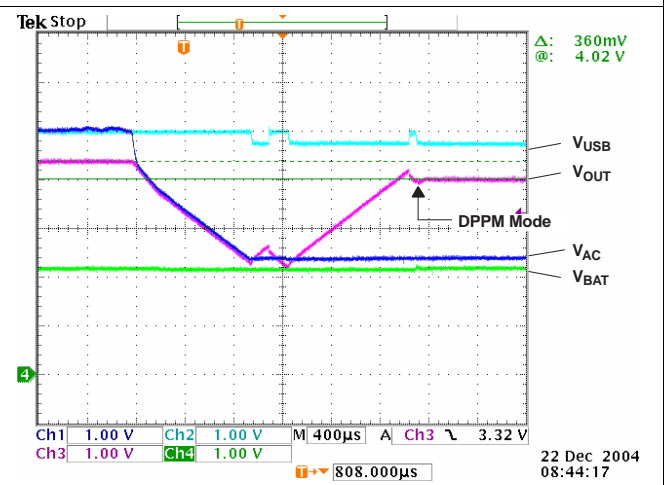

Figure 11. Remove AC (Low Battery) – PWR XFER to USB
**Figure 11** illustrates when AC (low battery) is removed, power transfers to USB; PSEL = H; channel 1 (CH1)  $V_{AC} = 5.4$  V; channel 2 (CH2)  $V_{(USB)} = 5$  V; channel 3 (CH3)  $V_{OUT}$ ; output current,  $I_{OUT} = 0.25$  A; channel 4 (CH4)  $V_{BAT} = 2.25$  V; and  $I_{(PGM-CHG)} = 1$  A. This figure is the same as where the battery has more capacity. Note that the output drops to the battery voltage before switching to USB power. A resistor divider between AC and ground tied to PSEL can toggle the power transfer earlier if necessary.